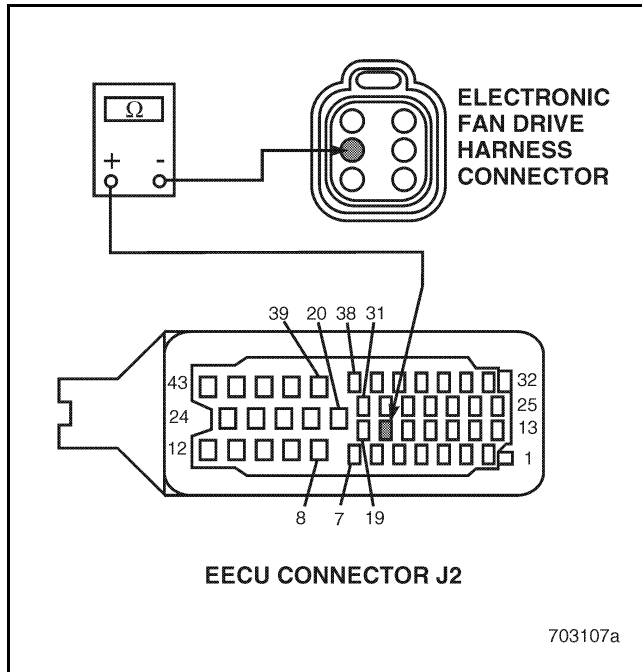

Figure 122
4. Check for continuity between EECU harness connector J2 pin 18 and electronic fan drive harness connector pin 2 (see Figure 122).